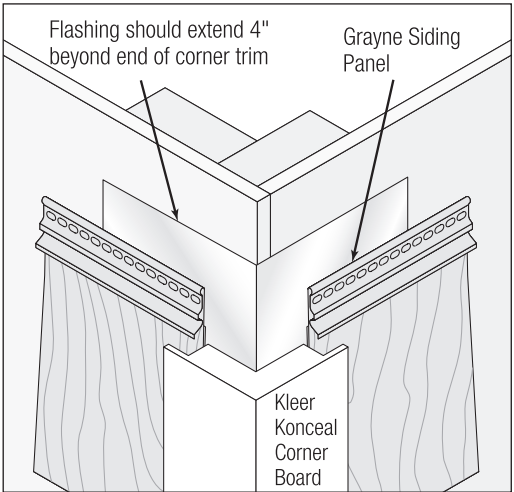

Fig. 5
- We recommend using Klear Konceal Cornerboards and Trimboards, with built-in 3/4" siding pocket that covers your cuts and gap for expansion and contraction (**Fig. 5**).